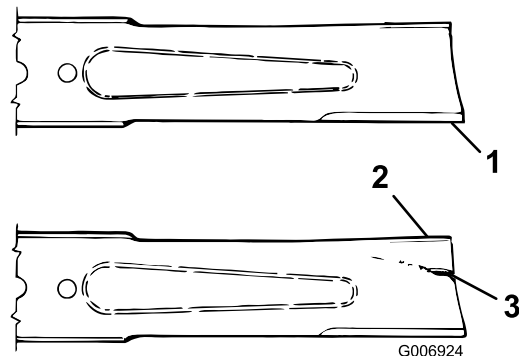

Figure 84
2. Examine the cutting ends of the blade carefully, especially where the flat and curved parts of the blade meet (Figure 84). Since sand and abrasive material can wear away the metal that connects the flat and curved parts of the blade, check the blade before using the machine. If wear is noticed (Figure 84), replace the blade; refer to Removing the Cutter Blade.
If the blade is allowed to wear, a slot will form between the sail and flat part of the blade (Figure 84). Eventually a piece of the blade may break off and be thrown from under the housing, possibly resulting in serious injury to yourself or bystanders.